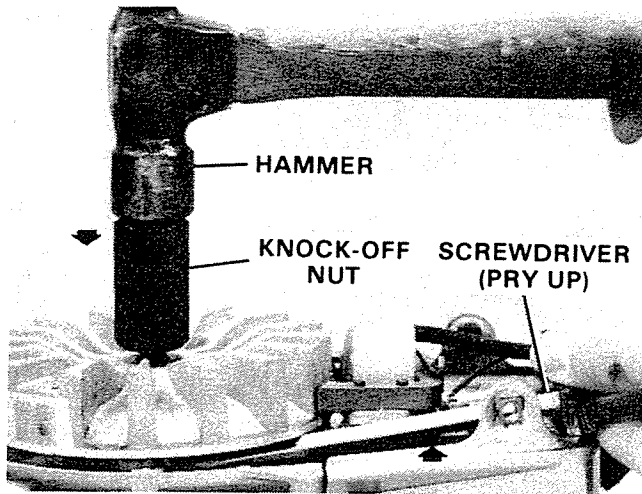

Figure 5. Removing Flywheel.
3. Remove flywheel by installing T 2923 (left hand) or T 8965 (right hand) knock-off nut 2-8 turns. Pry up on flywheel in line with key way. Hit knock-off nut sharply. Figure 5.